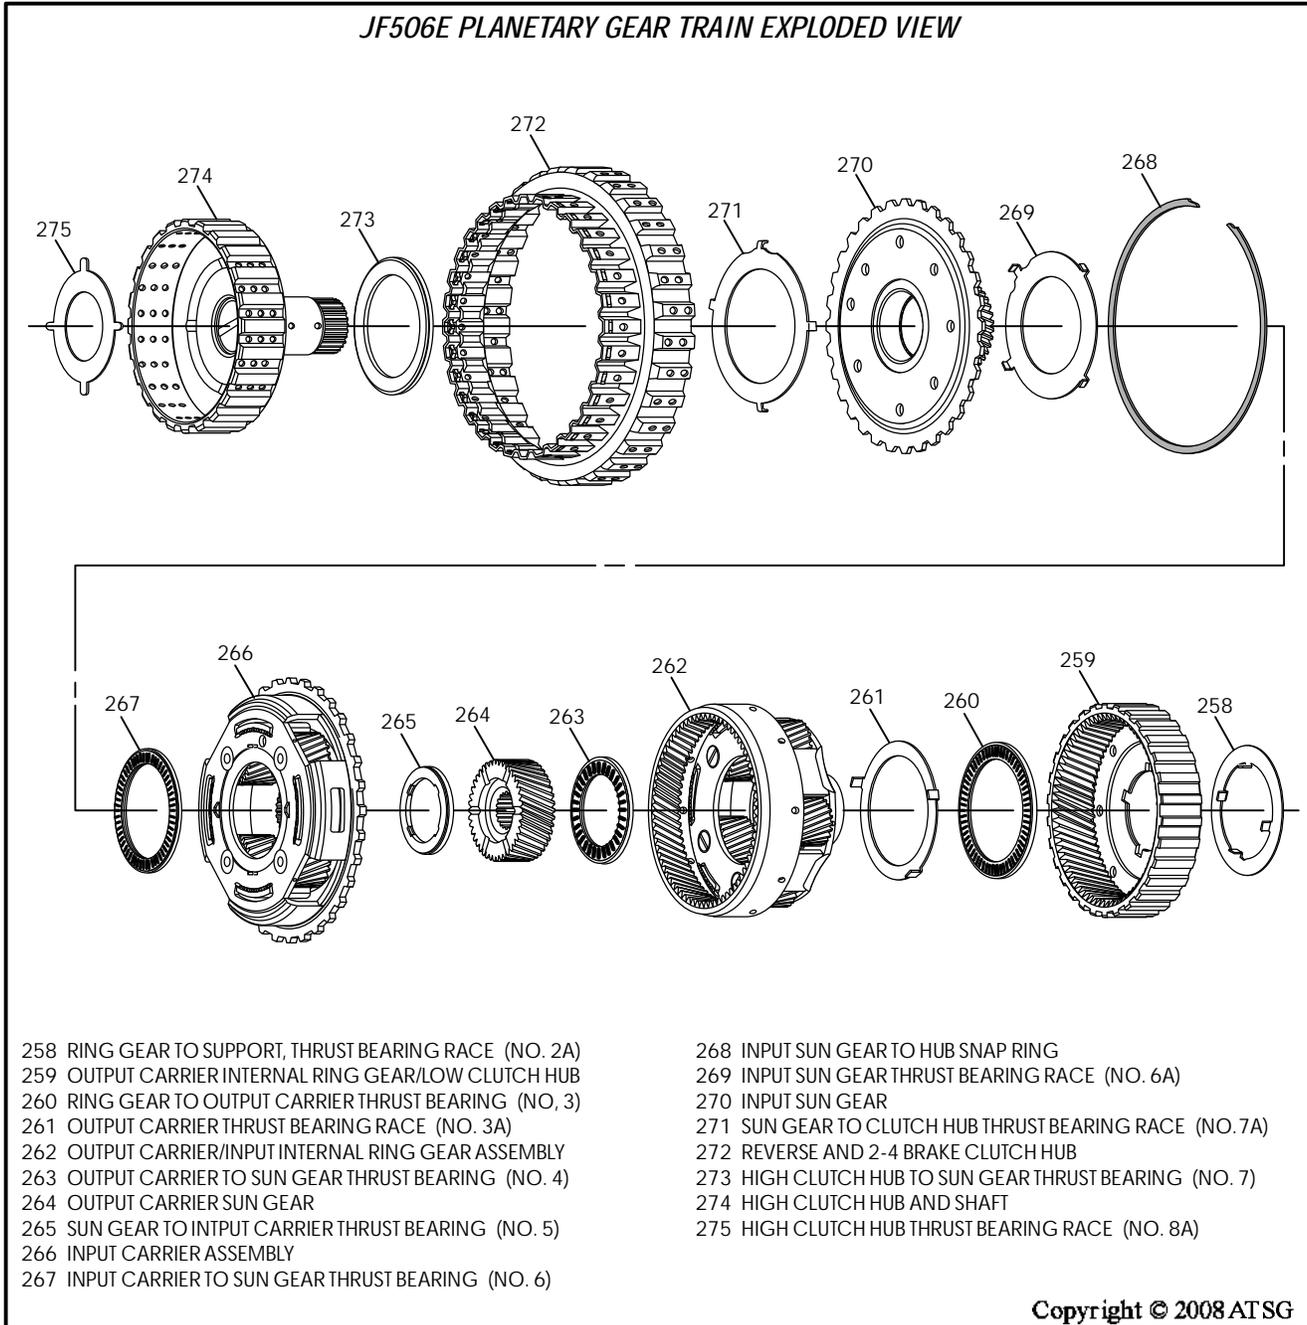

Figure 108
3. Disassemble any gear train parts necessary for replacement, using Figure 108 as a guide.